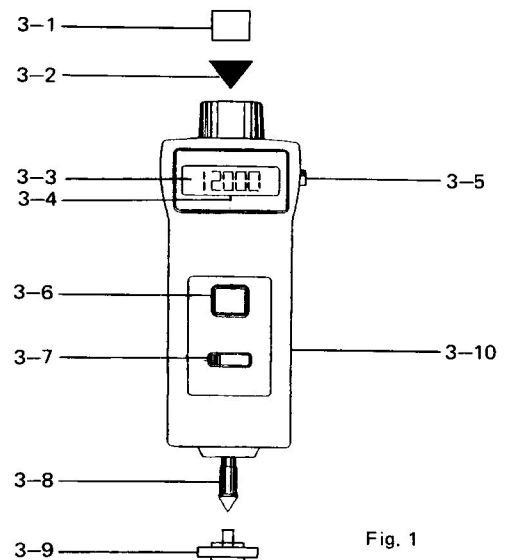

Fig. 1
- (1) When it is necessary to replace the battery (battery voltage less than approx. 4.5V), "LO" will appear on the display.
- (2) To loose the screw of the battery cover 3-10 fig. 1 away from the instrument and remove the battery.